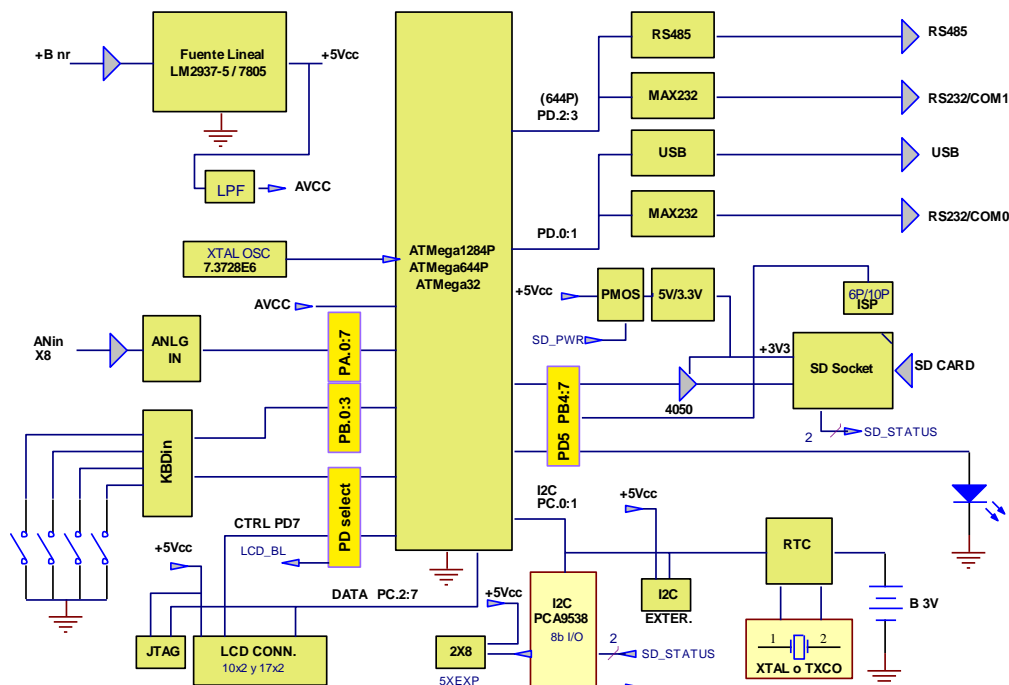

Figure 2 – Block diagram of the CL2bm1 board
2.a Block Diagram: L&R Ing. CL2bm1 boards were designed from 2009 to 2010, and have been reliably in use in many applications mainly for data logging and other control functions [ref09, ref10], usually teamed with the peripheral M4/E [ref11] board and with the METEO board/module [ref12]. The block diagram of the board can be seen in Figure 2.